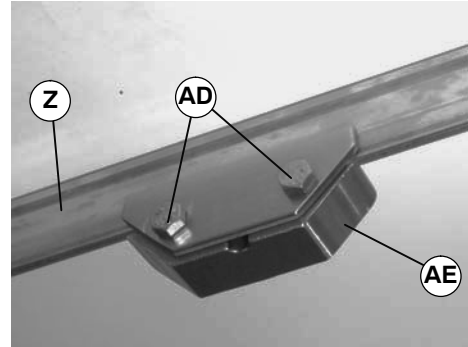

Figure 13
3. Attach return roller assembly (AE of Figure 13) on each side of conveyor (Z). Tighten screws (AD) to 80 in-lb (9 Nm).